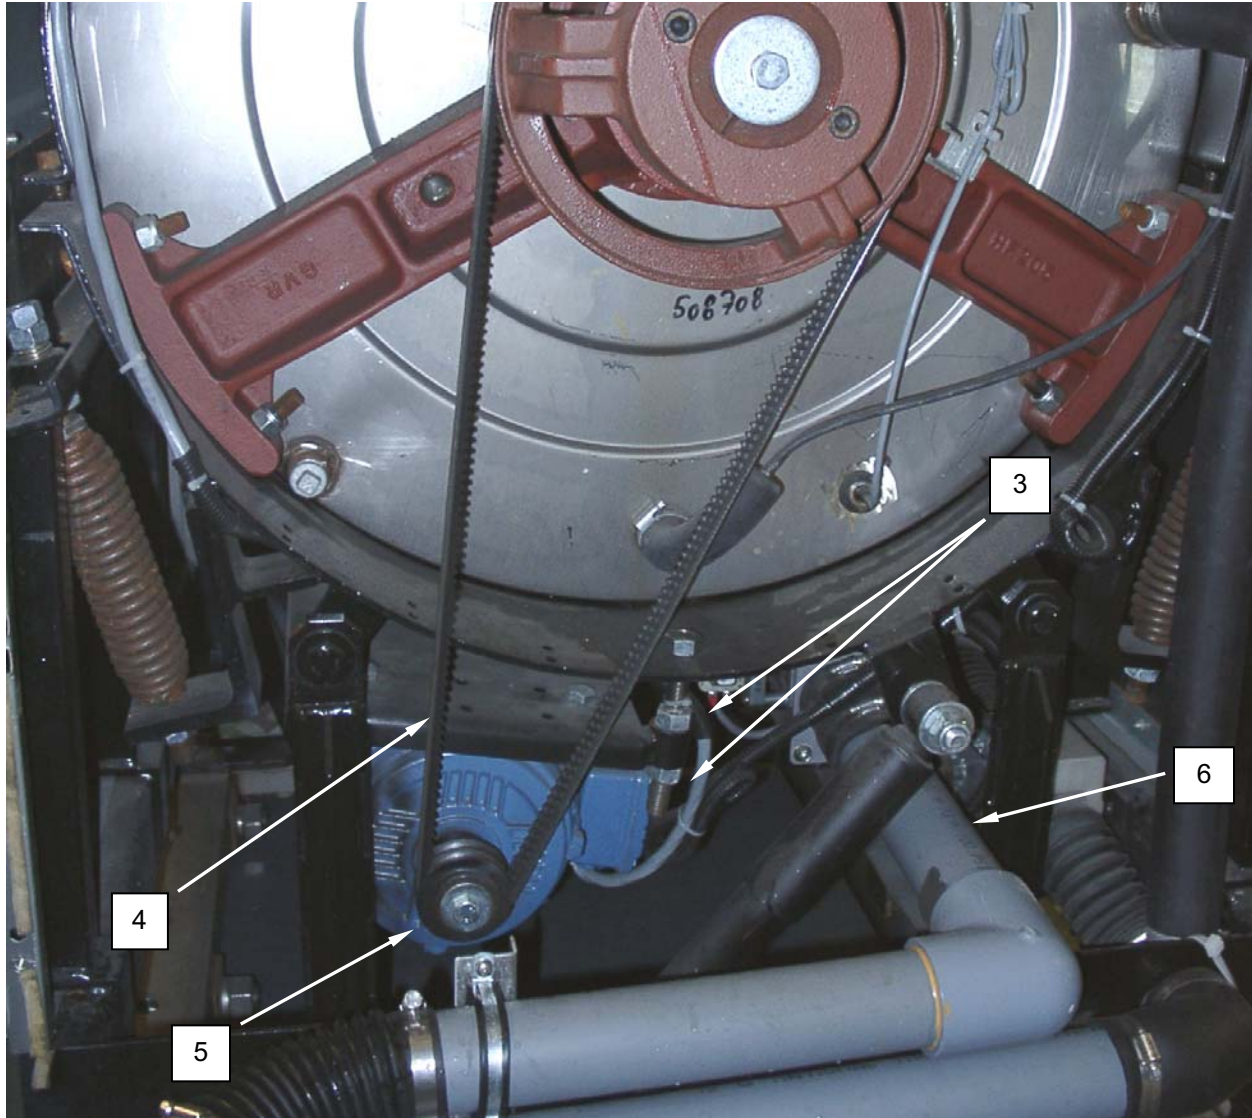

Figure 7. Replace the Washer Motor.
19. Install belt (**Figure 7, Item 4**) onto pulley (**Figure 7, Item 5**).
20. Install reuse drain line (**Figure 7, Item 6**) onto reuse drain valve. Ensure connecting hose is tightly clamped.
21. Adjust and tighten locknuts (**Figure 7, Item 3**) on adjustment bolt as necessary to ensure belt deflection is approximately 1/2 inch.